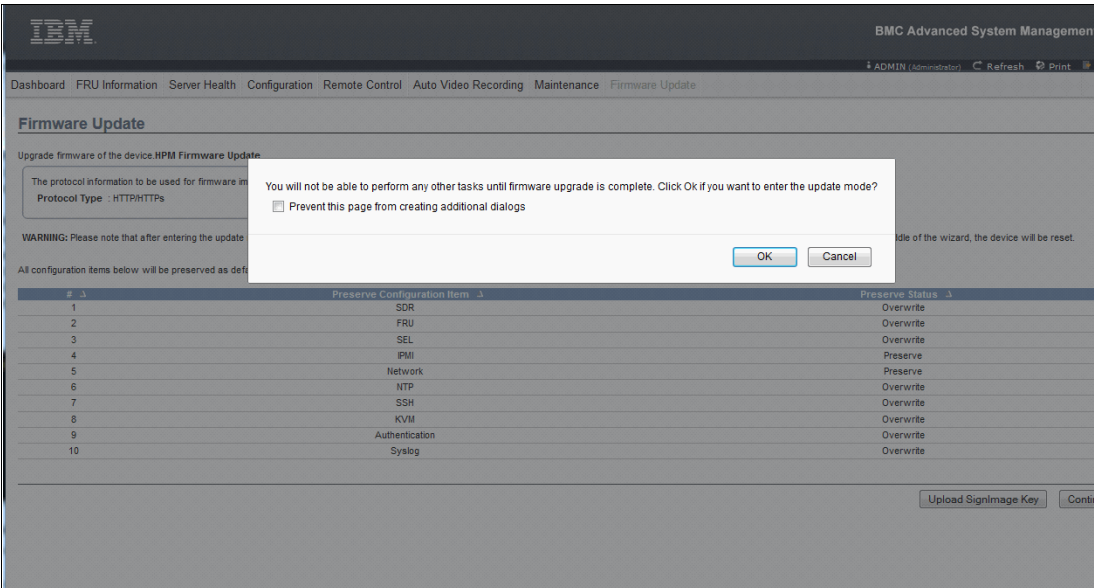

Figure 3-7 Confirm firmware update mode
5. The next window prompts whether you want to continue to the update mode, as shown in Figure 3-7. Until the firmware update is completed, no other activities can be performed in the Advanced System Management Interface. If you want to proceed, click **OK**.